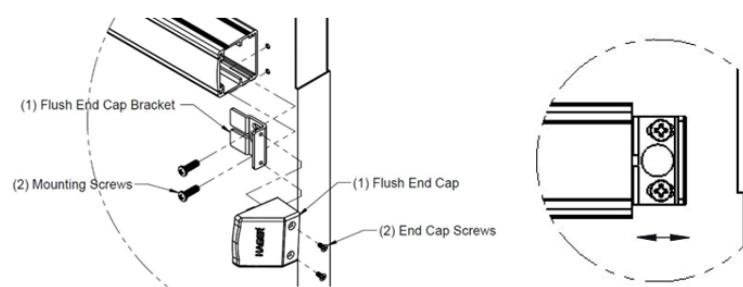

Figure 10-5
- F. Install flush end cap bracket and flush end cap using supplied screws. If the flush end cap is not flush with the exit device, remove flush end cap and adjust the mounting screws and the flush end cap bracket as needed (see Figure 10-5).